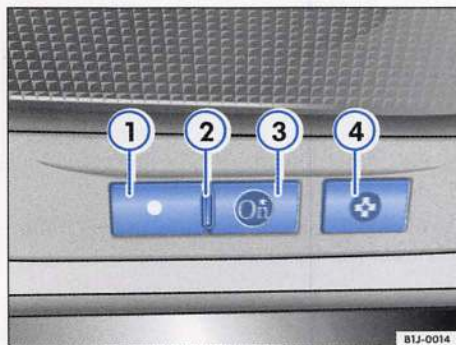

Fig. 4 OnStar emergency button
⇒ fig. 4 (4) to connect with an OnStar Advisor.